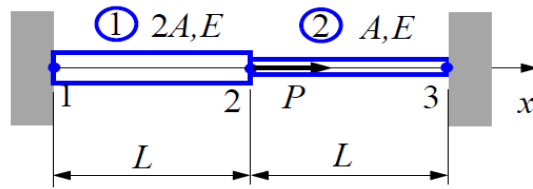

Figure 4
- c) Use two 1-D bar elements to model the structure shown in Figure 4 which is loaded with force P , and constrained at two ends. Obtain the stress in the two elements.